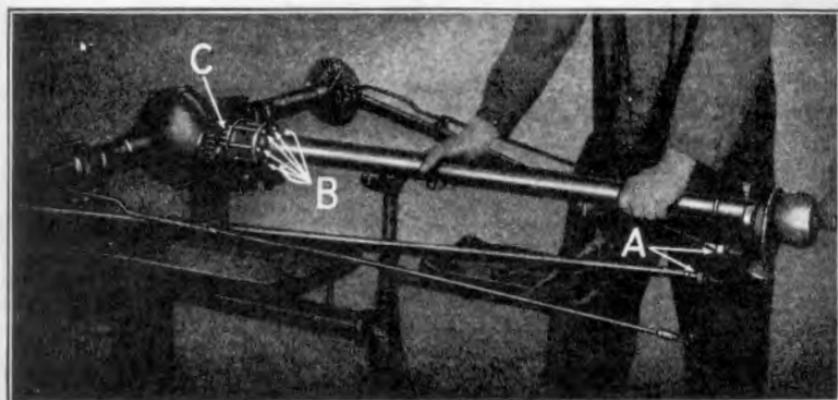

Fig. 351
- Place a radius rod lockwasher over threaded end of radius rods and position it against lock nut which has been run down to end of threads on rods (See "A" Fig. 351).